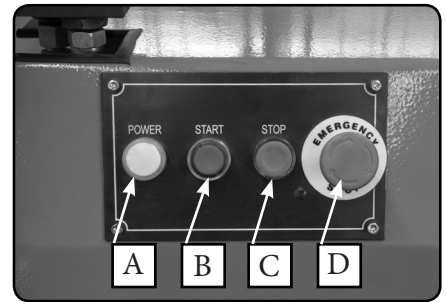

Fig. 7
- A. Power Light - This light illuminates when the power is turned on at the main isolating switch. (Fig. 7)
- B. Start Button - The hydraulic pump motor is started when this button is pressed (Fig. 7)
- C. Stop Button - This button when pressed switches off the hydraulic pump. (Fig. 7)
- D. Emergency Stop/RESET Button: Stops all machine functions. Twist clockwise to reset. (Fig. 7)